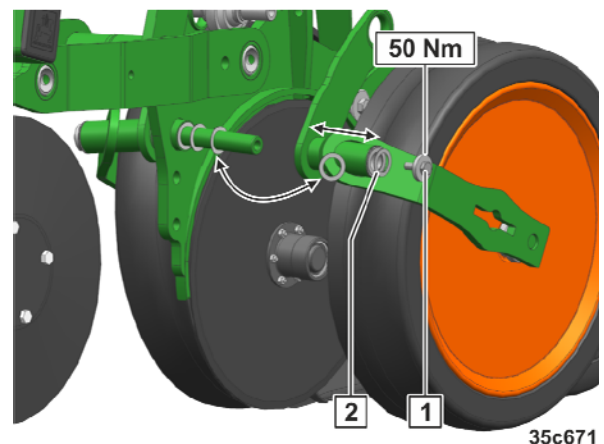

Fig. 313
1. Loosen the bolt (Fig. 313/1) and remove it.
3. Adjust the spacing with the spacer discs (Fig. 313/2) so that the support roller slightly touches the coulter disc.
3. Unscrew and remove the bolts (Fig. 313/1).
4. Dismount the worn coulters disc (Fig. 313/2).